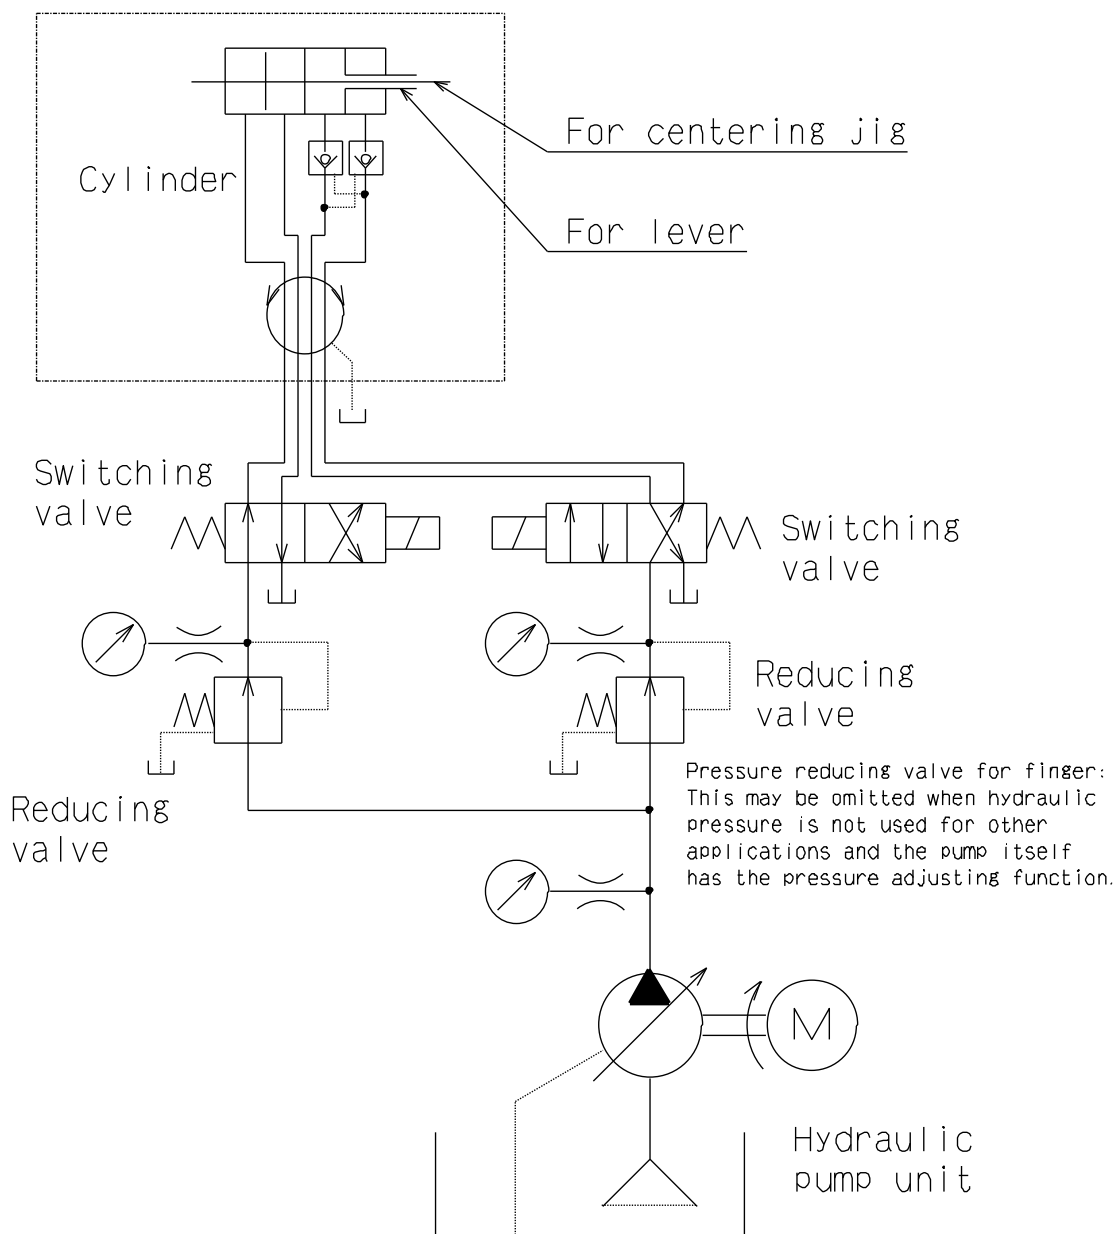

Fig.12
- **The end of the hose is physically above the oil level. (Refer to Fig.12)**
- Fig.12 shows an example of chuck open/close hydraulic circuit.